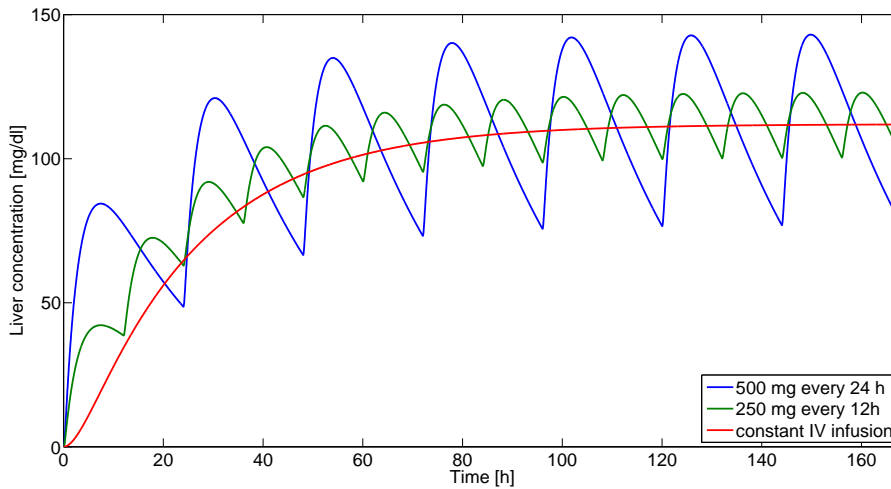

Figure 5.2 Liver concentration at different medication strategies
- d.** Simulating the system with this oral prescription every 24 hours produces the blue curve in Fig. 5.2 below. The output oscillates heavily with a 24 hour period. An alternative medication strategy to reduce the oscillations and to keep the concentration more even could be to administer the drug in half the dose every 12 hours instead (green curve).
Simulations in Matlab (red curve) in Fig 5.2 below confirms that the constant intravenous injection eliminates the oscillations in liver concentration.